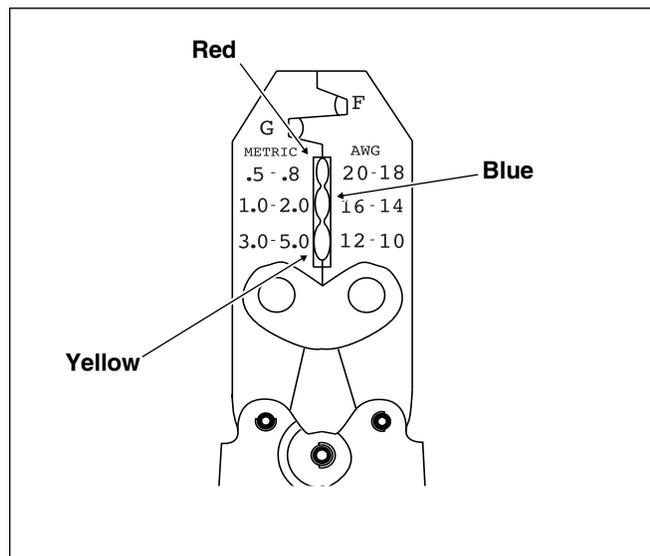

Figure 8-39. Packard Crimp Tool (HD-38125-8)
4. Determine the correct die or nest for the crimping operation. Match the color or gauge wire marked on the butt splice connector with the corresponding crimp cavity on the crimp tool. See Figure 8-39.